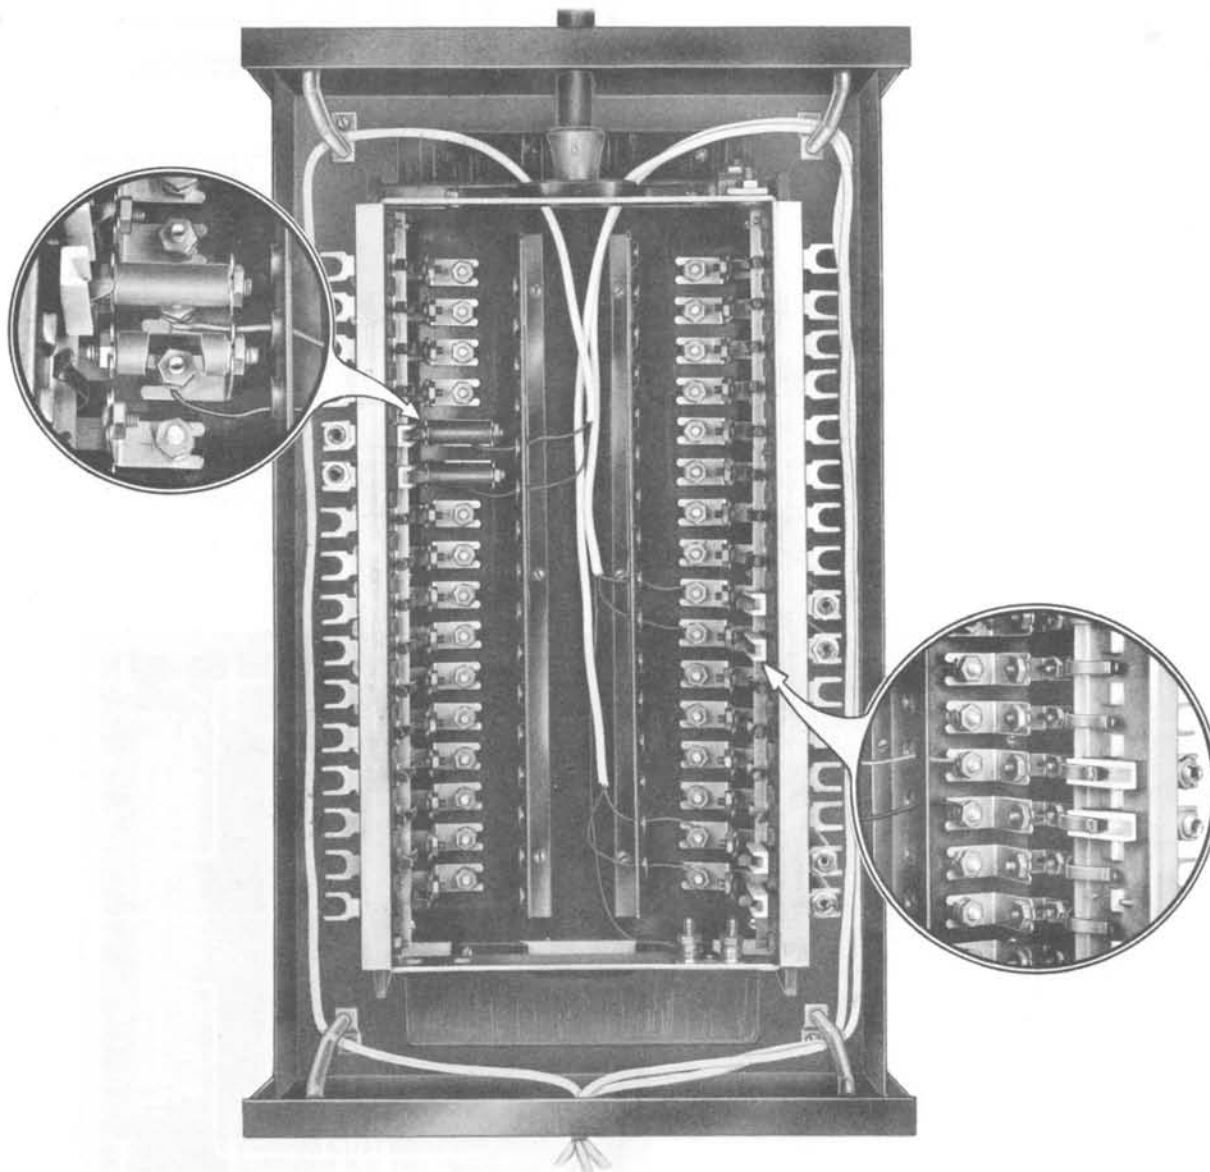

Fig. 11 — Typical Station Wiring of LC-type Terminal
ber shown in Fig. 11. Place 60-type fuses as specified in the B Section entitled Protection and Fusing of PBX Trunks, Tie Trunks, Ringing and Battery Feeders, and Off Premises Extensions.
8.05 The 2-piece clip for mounting the 60-type fuse on the front of LA- and LB-type fuse chambers is joined by a P-290225 connector as shown on the right in Fig. 11 and 12. When a 60-type fuse is used, the connector is removed and stored in the bottom of side panel. The portion of the clip which is toward the center of the chamber should be removed from the binding post and re-installed to form a mounting for the fuse as shown on the left in Fig. 11 and 12.